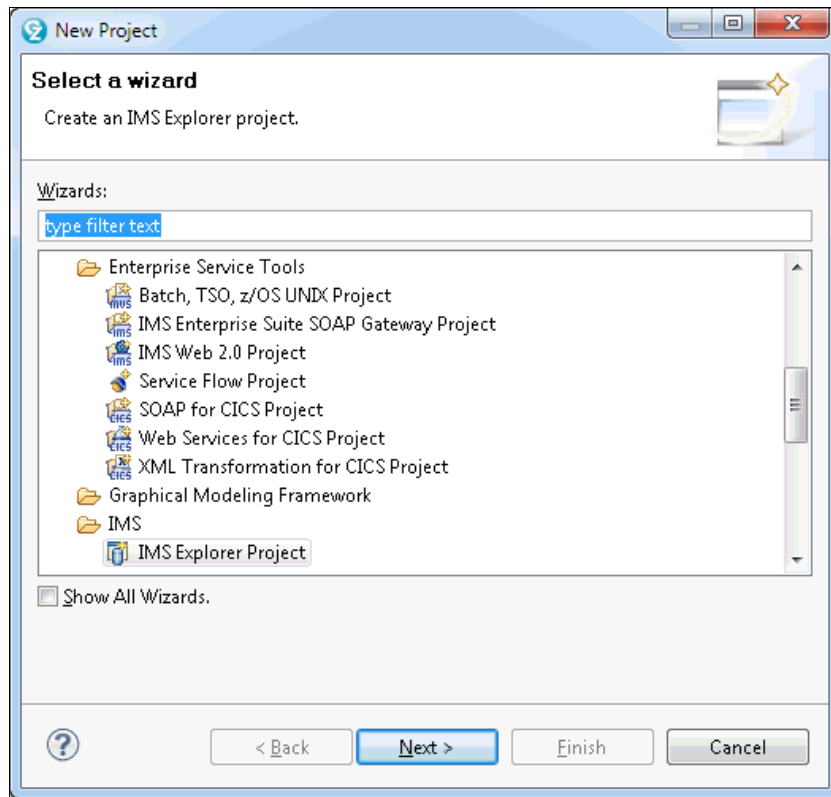

Figure 8-15 Create a New Project wizard
2. To create an IMS Explorer Project, right-click in the Project Explorer window (upper left), and select **New** → **Project** to start the Create a New Project wizard (Figure 8-15 on page 309).